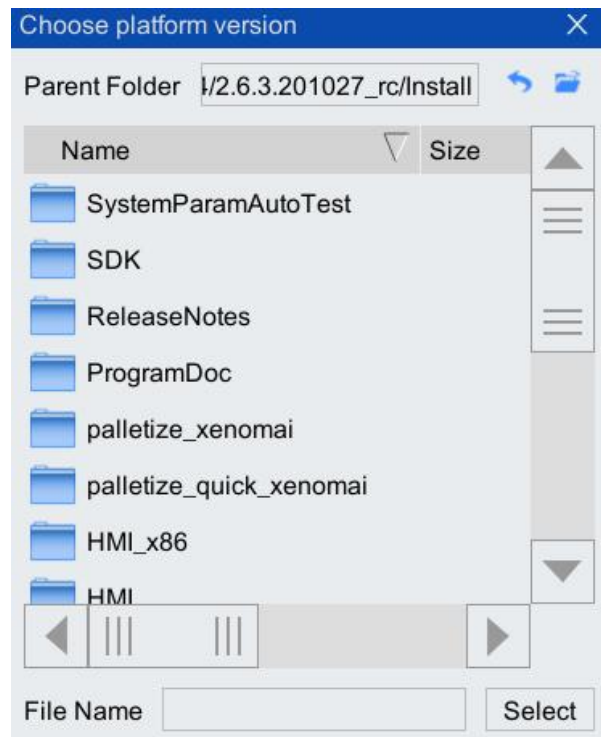
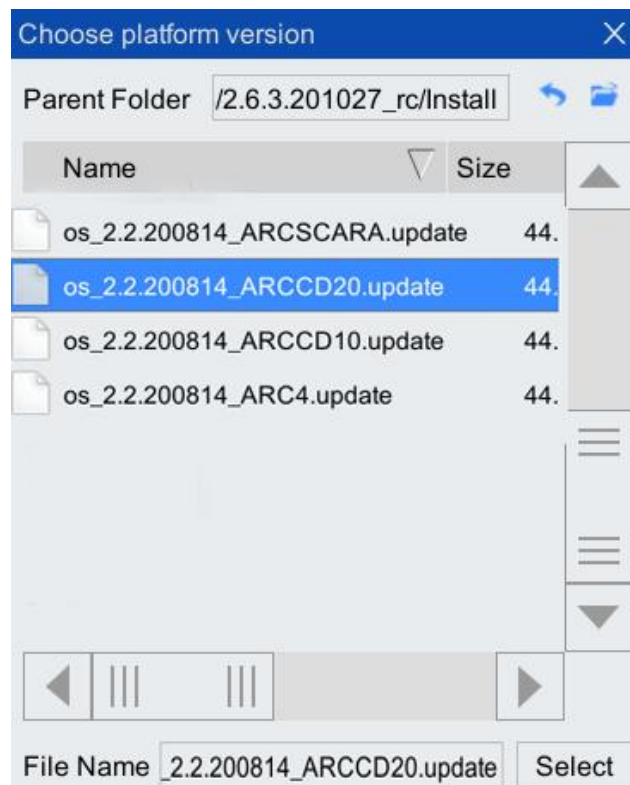

Figure 8-50 "Please select upgrade file"list box
Figure 8-51 The path of the platform upgrade file
Step2. Switch the path from Figure 8-50 to the path where the platform upgrade file is located, select the platform upgrade file, click the <Select> button, and the "Upgrade os to **?" prompt dialog box shown in Figure 8-51 will pop up, Click the <OK> button.